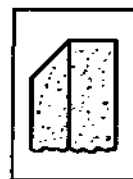

Fig. 12
**FACE GRINDING** -- When face grinding, it is necessary to dress the wheel so that the surface contacting the workpiece is bevelled, as shown in Fig. 12. Clamp the diamond dresser onto the workpiece or a piece of stock chucked in the lathe with the diamond nib facing the operator. Remove the nib by loosening the locking set screw and insert the diamond into the right side slot so that it extends about 1/8" beyond the holder and faces to the operator's right as illustrated in Fig. 11. Pass the wheel lightly back and forth over the nib until a suitable bevel for the particular grinding operation is obtained. The grinding operation will determine the amount of bevel required. However, a small bevelled face will break down faster than a wider face and consequently will require redressing oftener.